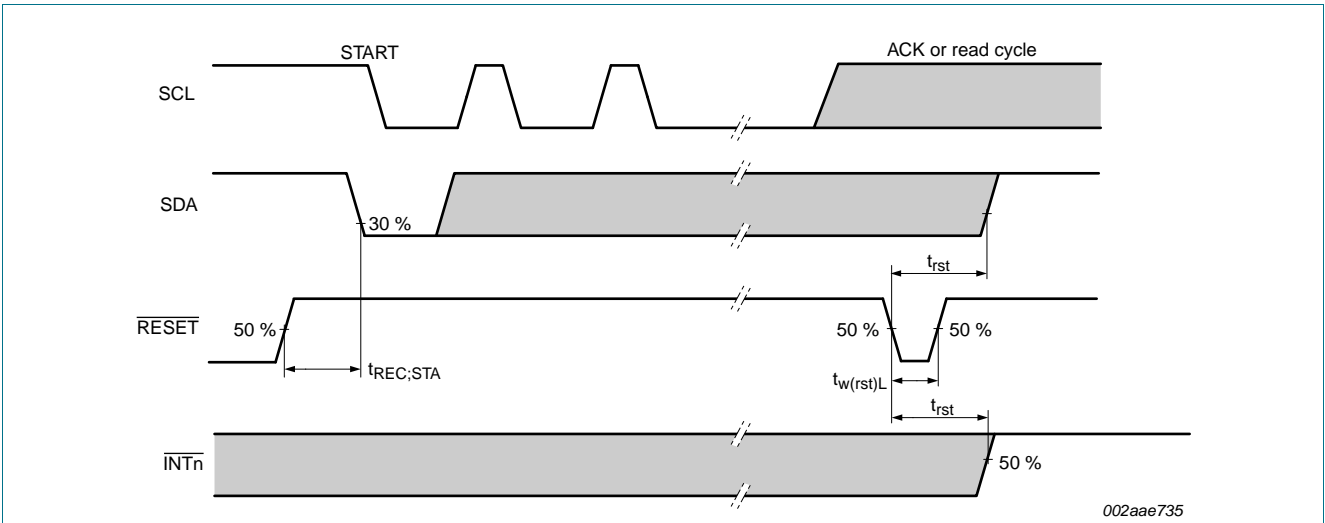

Fig 25. Definition of RESET timing
Modifications:	<ul style="list-style-type: none"> <li>Type numbers PCA9541D//02, PCA9541PW/02 and PCA9541BS/02 are withdrawn; this affects:               <ul style="list-style-type: none"> <li><a href="#">Section 1 "General description"</a>, 2nd paragraph modified; (old) 11th paragraph deleted</li> <li><a href="#">Section 2 "Features and benefits"</a>, (old) 4th bullet item deleted</li> <li><a href="#">Table 1 "Ordering information"</a> modified</li> <li><a href="#">Table 2 "Marking codes"</a> modified</li> <li><a href="#">Figure 2</a>, <a href="#">Figure 3</a> and <a href="#">Figure 4</a> modified</li> <li><a href="#">Table 6 "Register 0 - Interrupt Enable (IE) register bit description"</a>, <a href="#">Table note [1]</a> modified</li> <li><a href="#">Table 8 "Register 1 - Control Register (B1:B0 = 01b) bit description"</a>, <a href="#">Table note [1]</a> modified</li> <li><a href="#">Table 11 "Default Control Register values"</a> modified</li> <li><a href="#">Table 14 "Register 2 - Interrupt Status (ISTAT) register bit description"</a>, <a href="#">Table note [1]</a> modified</li> <li><a href="#">Section 8.5 "Power-on reset"</a>, (old) 2nd bullet item deleted</li> <li><a href="#">Section 8.6 "External reset"</a>, (old) 2nd bullet item deleted</li> <li><a href="#">Section 10.2 "High reliability systems"</a>, 1st paragraph modified</li> </ul> </li> <li>(Old) Table 16 "Static characteristics (2.3 V to 3.6 V)" and (old) Table 17 "Static characteristics (3.6 V to 5.5 V)" are merged.</li> <li><a href="#">Table 16 "Static characteristics"</a>, sub-section "Supply":               <ul style="list-style-type: none"> <li><math>I_{stb}</math> (Typ) at condition <math>V_{DD} = 2.3\text{ V to }3.6\text{ V}</math> changed from "10 <math>\mu\text{A}</math>" to "30 <math>\mu\text{A}</math>"</li> <li><math>I_{stb}</math> (Max) at condition <math>V_{DD} = 2.3\text{ V to }3.6\text{ V}</math> changed from "100 <math>\mu\text{A}</math>" to "80 <math>\mu\text{A}</math>"</li> <li><math>I_{stb}</math> (Typ) at condition <math>V_{DD} = 3.6\text{ V to }5.5\text{ V}</math> changed from "10 <math>\mu\text{A}</math>" to "40 <math>\mu\text{A}</math>"</li> <li><math>I_{stb}</math> (Max) at condition <math>V_{DD} = 3.6\text{ V to }5.5\text{ V}</math> changed from "200 <math>\mu\text{A}</math>" to "100 <math>\mu\text{A}</math>"</li> </ul> </li> <li><a href="#">Table 16 "Static characteristics"</a>, sub-section "Input SCL_MSTn; input/output SDA_MSTn (upstream and downstream channels)":               <ul style="list-style-type: none"> <li>for condition <math>V_{DD} = 3.6\text{ V to }5.5\text{ V}</math>, deleted <math>I_{L}</math> and <math>I_{H}</math> specifications (was in old Table 17)</li> </ul> </li> <li><a href="#">Table 16 "Static characteristics"</a>, sub-section "Select inputs A0 to A3, <math>\overline{\text{INT\_IN}}</math>, <math>\overline{\text{RESET}}</math>":               <ul style="list-style-type: none"> <li>for condition <math>V_{DD} = 3.6\text{ V to }5.5\text{ V}</math>, <math>I_{L}</math> (Max) changed from "+50 <math>\mu\text{A}</math>" to "+1 <math>\mu\text{A}</math>" (from old Table 17)</li> </ul> </li> <li><a href="#">Table 16 "Static characteristics"</a>, sub-section "Pass gate":               <ul style="list-style-type: none"> <li>for condition <math>V_{DD} = 3.6\text{ V to }5.5\text{ V}</math>, <math>I_{L}</math> (Max) changed from +100 <math>\mu\text{A}</math> to +1 <math>\mu\text{A}</math> (was in old Table 17)</li> </ul> </li> <li><a href="#">Figure 25 "Definition of RESET timing"</a> modified:               <ul style="list-style-type: none"> <li>changed signal name from "LEDx" to "<math>\overline{\text{INTn}}</math>"</li> <li>deleted "LED off"</li> </ul> </li> </ul>